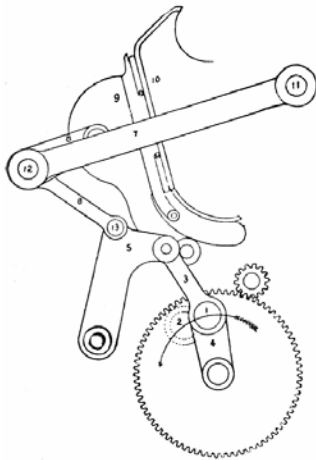
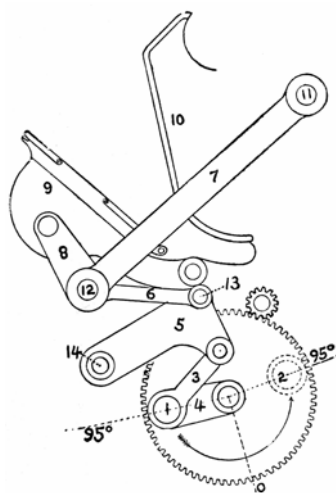

FIG. 3
FIG. 5
On the GOLDING JOBBER, motion and power being supplied by the crank (1, Fig. 3), the impression is imparted by the powerful compound lever, or toggle (7 and 8). Its advantage over a simple lever can be seen by reference to the following example:
The gear and crank of Fig. 3 corresponds to the first lever in the above example, and the toggle, consisting of side arm (7) and rocker connection (8) to the second lever. Being driven by parts 3, 5 and 6 to within five degrees of their common centre, this toggle imparts the impression while the platen (9) is passing through but one degree of its arc. During this time the crank (1), in travelling to the position indicated by the dotted portion, has passed through 28 degrees of its arc, and while in itself fully as powerful as anything to be found in the best of crank-action presses, with the aid of the toggle an impressional force is imparted many times as great as the original power supplied by the crank, but impossible to accurately estimate on account of friction and elasticity of the iron, which are variable quantities.
The dotted portion marked 2 on the large gear wheel (Fig. 3), shows the position of the crank and toggles at the completion of the impression. When the crank starts downward from this point and reaches the position shown in Fig. 5, the platen has already, in the short space of time, opened enough to allow the feeder to grasp the sheet for removal. Until the crank arrives at the position marked 2, indicated by the arrow, a total of 190 degrees, or for over one-half the entire revolution, the platen is in a position for feeding.